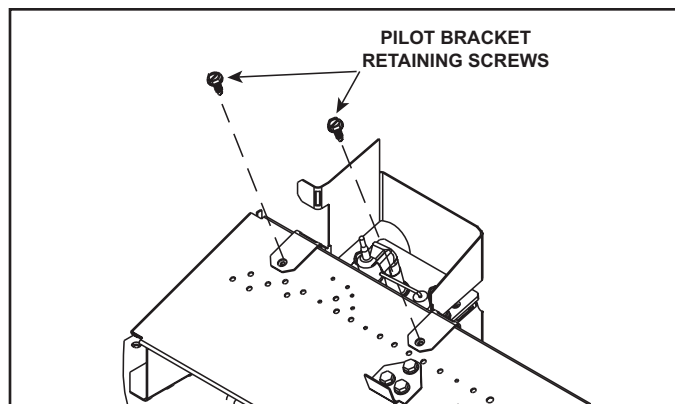

Figure 9.18
- Unscrew the brackets at both ends of the burner and the top two screws locating the pilot bracket (see Figure 9.18). Slide the burner away from the burner orifice.